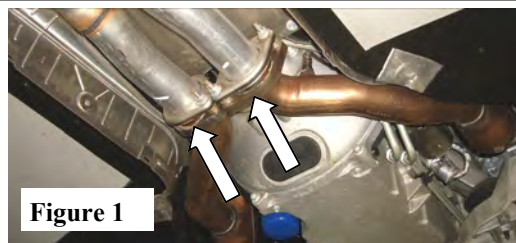

Figure 1
1. Starting with the factory mid-pipe, loosen and remove bolts on front flanges. Keep hardware for installation of your new exhaust system. (See Fig. 1)